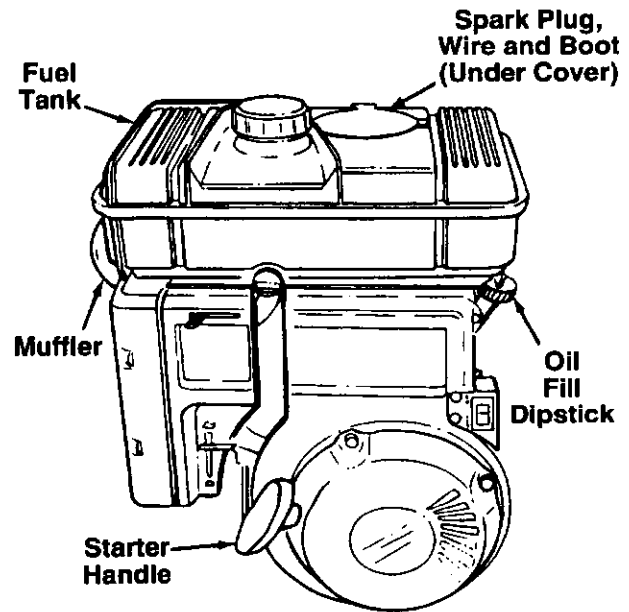

FIGURE 11.
- Attach spark plug wire and cover to spark plug. See figure 11.
- Open cover (on top of fuel tank) and attach spark plug wire and rubber boot to spark plug if necessary. See figure 11.
- Grasp starter handle (see figure 11) and pull rope out slowly until engine reaches start of compression cycle (rope will pull slightly harder at this point). Let the rope rewind slowly.
Your four-cycle engine will normally consume some oil; therefore, check engine oil level regularly—approximately every five hours of operation and before each usage. Stop engine and wait several minutes before checking oil level. With engine level, the oil must be to the FULL mark on dipstick (refer to figure 11). Change engine oil after the first five hours of operation, and every twenty-five hours thereafter.